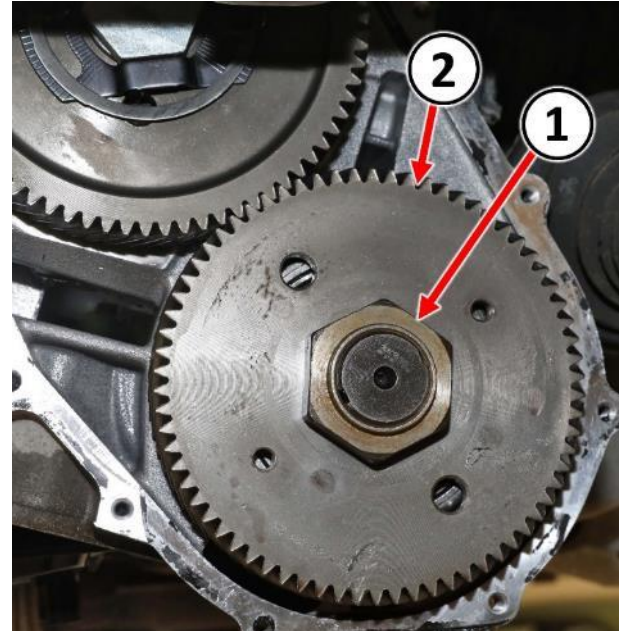

Figure 43 – Transfer Gear Nut
- 75. Obtain and install by hand a **NEW** nut for retaining the transfer gear to the underdrive shaft (Figure 43).